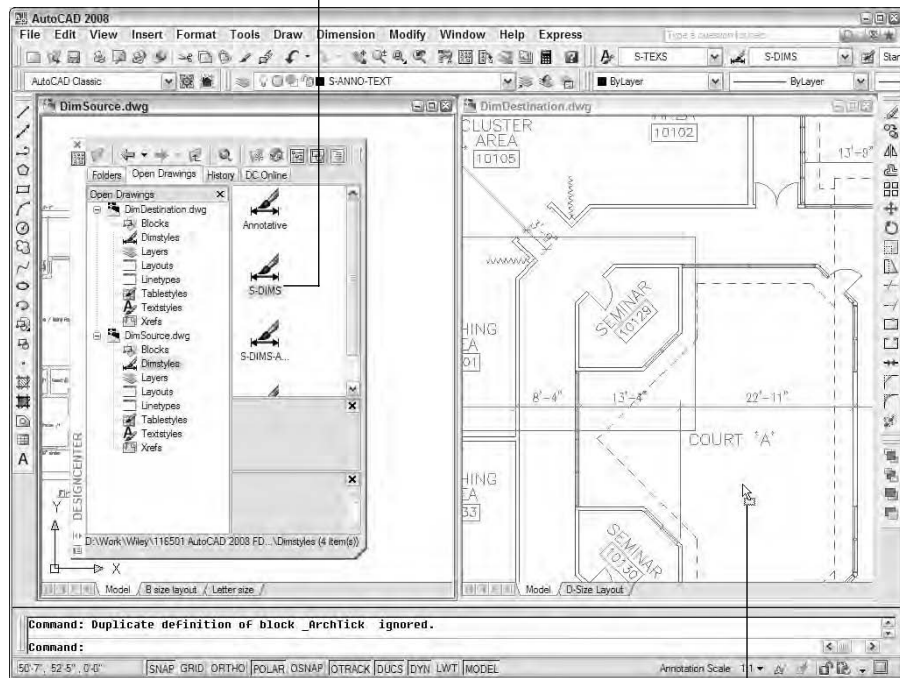

Figure 11-4:
If you already had both drawings open, make sure that you can see the destination drawing. If you can't, either open the Window menu and choose the destination drawing in order to bring it to the foreground or tile the windows, as shown in Figure 11-4.
- 7. Click and drag the desired dimension style from the content pane of the DesignCenter palette into the window containing the destination drawing that you opened in Step 2, as shown in Figure 11-4.**